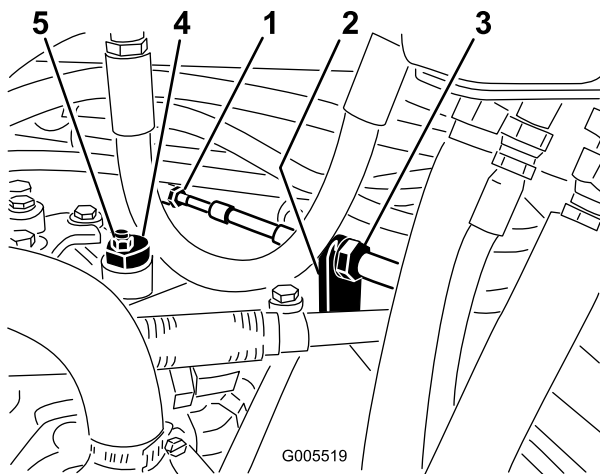

Figure 54
- A. Loosen both jam nuts securing the traction control cable to the bulkhead on the hydrostat (Figure 54). Make sure the jam nuts are loosened equally and sufficiently to allow adjustment.
Note: Loosen the nut securing the eccentric to the top of the hydrostat (Figure 54).
adjustment (Figure 54). Verify the adjustment with the throttle in the Slow and Fast position.
- D. From each side of the bulkhead, tighten the locknuts evenly, securing the traction cable to the bulkhead (Figure 54). Do not twist the cable.